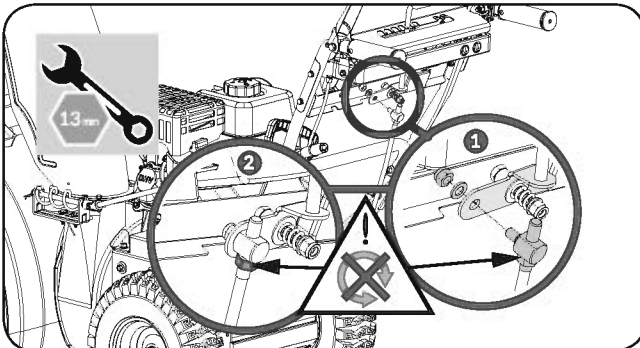

Figure 6b
2. Lift up the shift rod. Insert the trunnion into the shift rod hole on the bottom of the shift lever under the dashboard. Install the washer and M8 nut. Tighten securely. (See **Figure 6b #1**)
*The speed adjusting lock nut at the upper end of the shift rod was adjusted before leaving the factory. Do NOT loosen the lock nut. Doing so may cause the machine speeds to become dis-ordered, including Fwd and Rev. (See **Figure 6b #2**)*